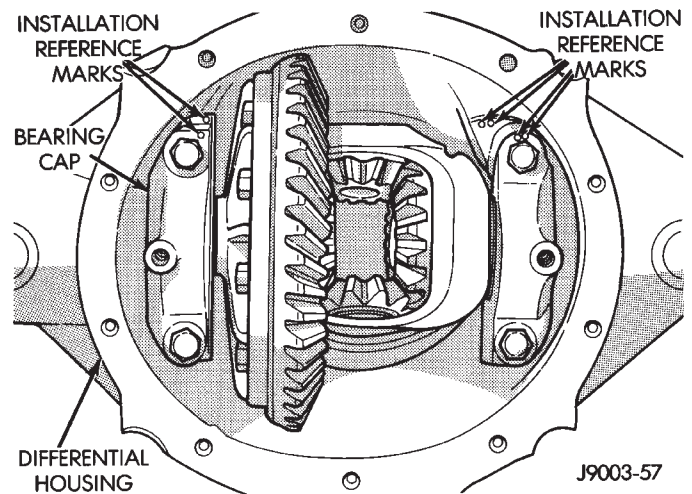

Fig. 28 Bearing Caps & Bolts
(1) Apply a coating of hypoid gear lubricant to the differential bearings, bearing cups and threaded adjusters. A dab of grease can be used to keep the adjusters in position. Carefully position the assembled differential case in the housing.
(2) Observe the reference marks and install the differential bearing caps at their original locations (Fig. 28).
(3) Install the bearing cap bolts (Fig. 28). Tighten the upper bolts to 14 N·m (10 ft. lbs.) torque. Tighten the lower bolts finger-tight until the bolt head is lightly seated.